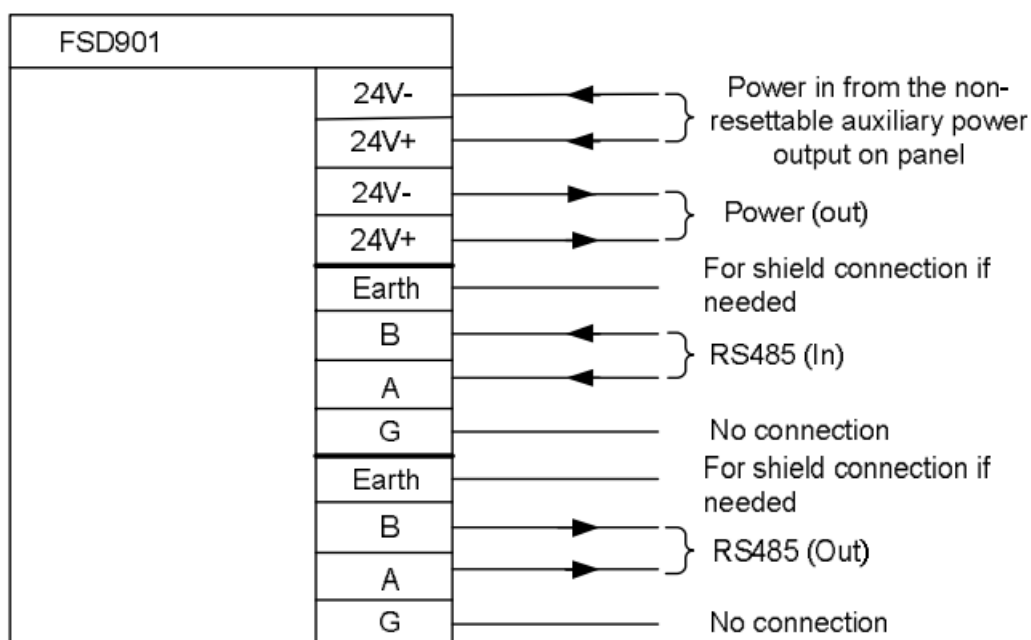

Fig 3 Connection
5. Connect cables to terminals referring to the connection diagram (Fig. 3). Correctly set the internal 120Ω EOL resistor referring to the section “EOL Resistor”.